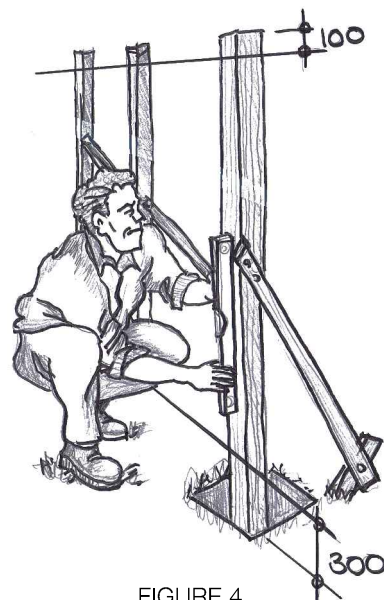

FIGURE 4
STEP 4 INTERMEDIATE POSTS (Figure 4)